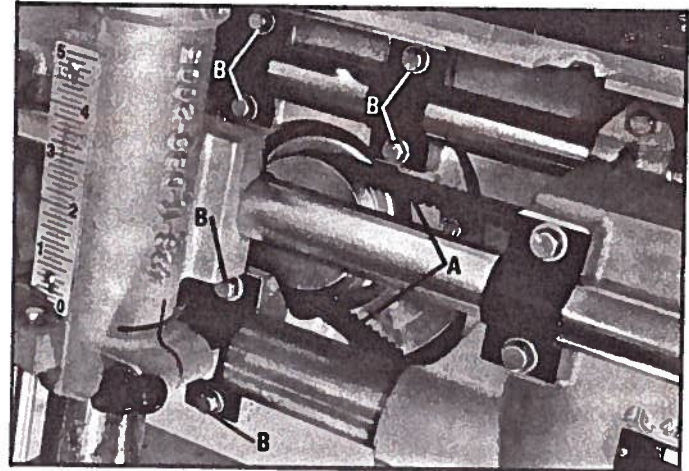

Fig. 34-A
4. Using pry bar (C) Fig. 34-B, pry motor housing (D) away from the driven pulley until there is 1/4" deflection of the belt in the center span of the pulleys.